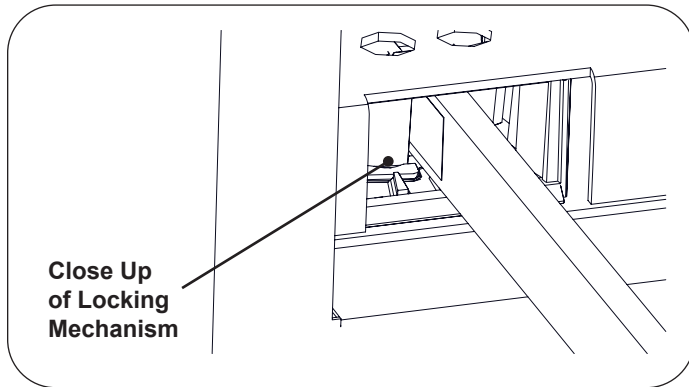

Figure 10. Stirrup Locking Mechanism
1. To operate the stirrups, grasp end of stirrup and pull straight out of the table (Figure 10). Lift up slightly while sliding the stirrup out.
2. When the desired position is achieved, lower the stirrup to engage the lateral locking mechanism (Figure 10 and Figure 11).